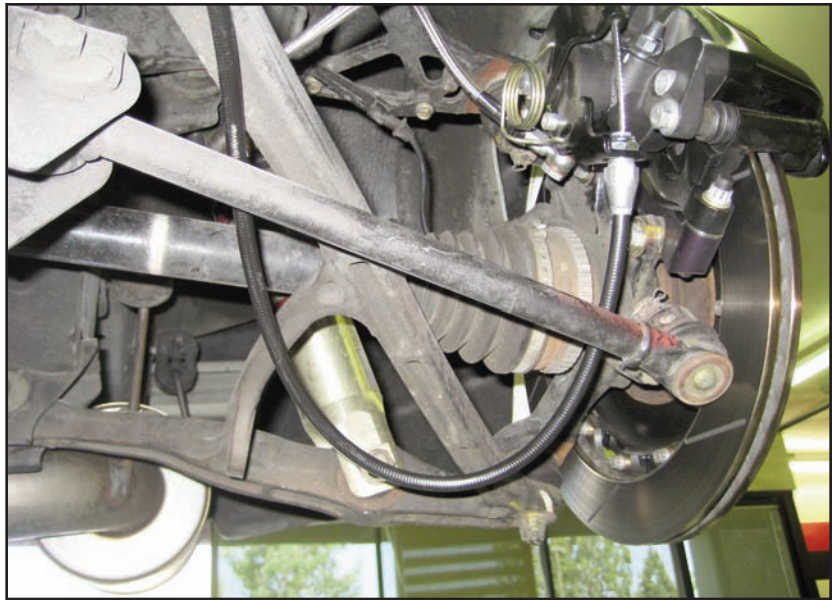

Figure 1. Installation of cable to Wilwood caliper. Photo showing rear brake setup on the left side of vehicle looking toward the rear of vehicle.
- Route the cables (figure 1) to the new Wilwood brake calipers. **Carefully route lines to prevent contact with exhaust or moving suspension, brake or wheel components.** Wilwood cable kits are designed for many different vehicle applications and it's the installer's responsibility to properly route and ensure adequate clearance and retention for parking brake cable components. Use plastic or metal line clamps (not supplied with kit) to secure cable to vehicle chassis or frame.